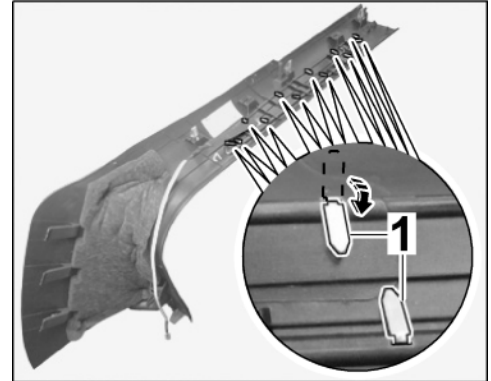

Figure 23
- 3.3.2 Press illuminated door entry guard and (inner) door sill trim together and bend over the tabs (⇒ *Figure 23*).